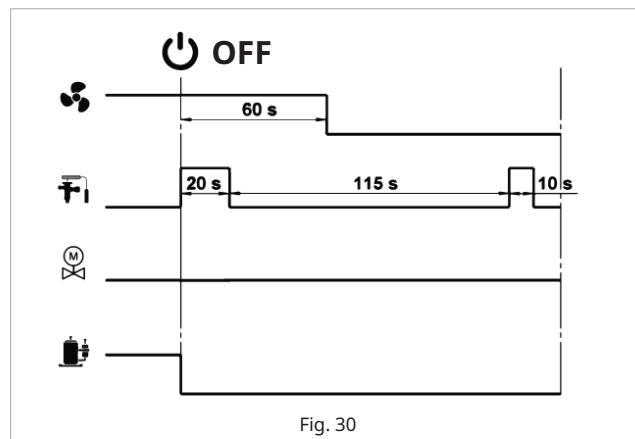

Fig. 30
9.3 Shut down procedure (Fig. 30)